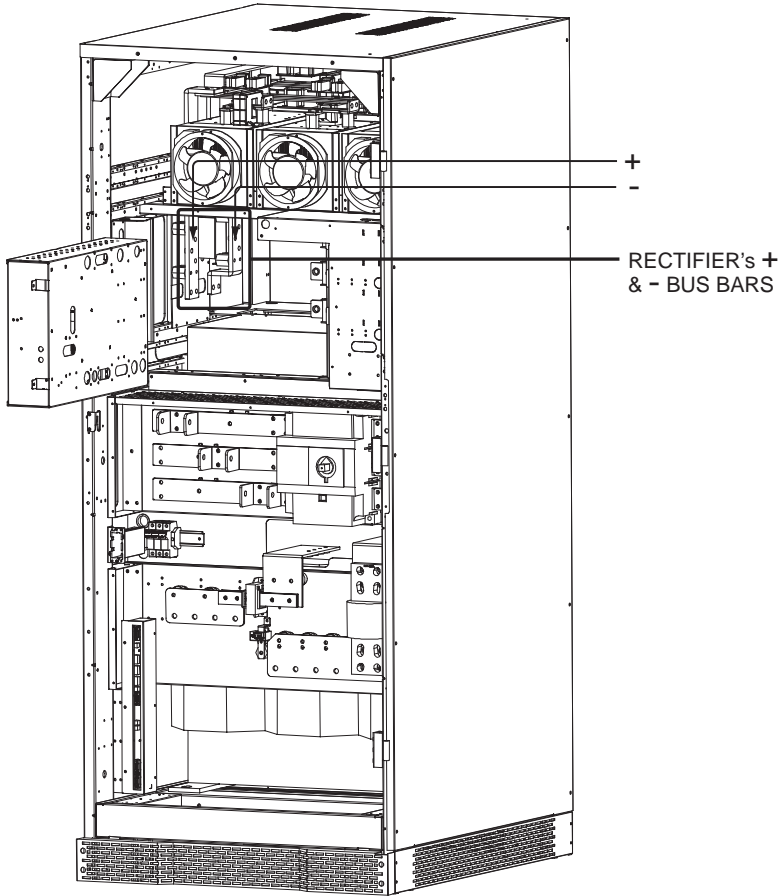

Figure 4-40
(1) Find the rectifier's + & - cooper bars. Please see **Figure 4-40**.